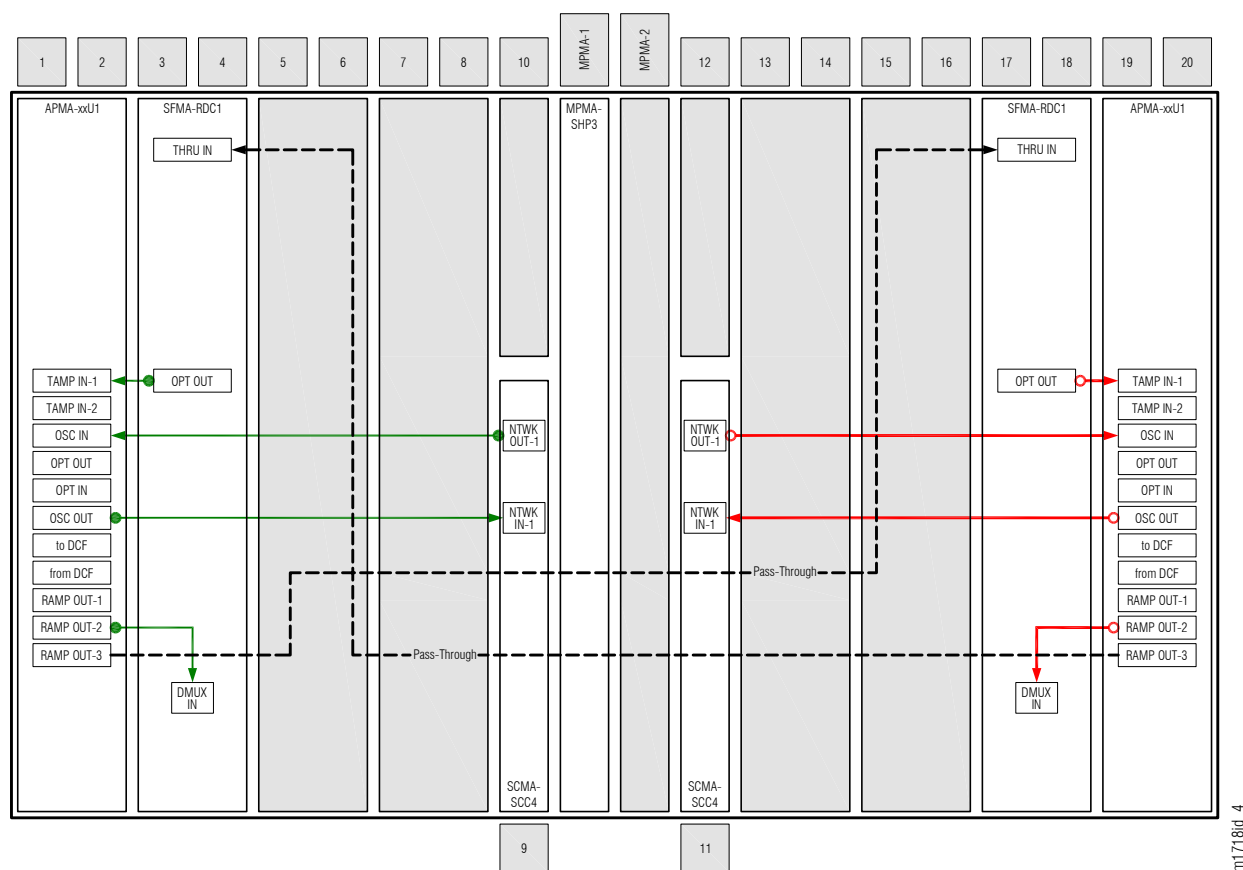

Figure 289: 2D-ROADM Unit Cabling with Drop
- b) Reconnect this cable end to connector DMUX IN of the SFMA-RDC1 plug-in unit located in slot 3 as shown in Figure 289 and listed in the following table.
- d) Reconnect this cable end to connector DMUX IN of the SFMA-RDC1 plug-in unit located in slot 17 as shown in Figure 289 and listed in the following table.